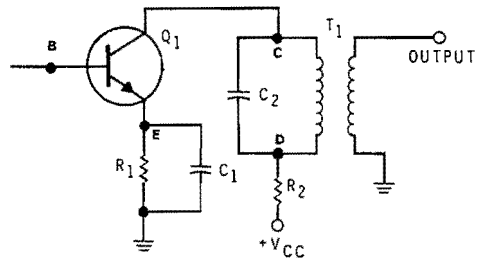

Figure 2-79
14. You could neutralize the RF amplifier shown in Figure 2-79 by connecting a capacitor between: